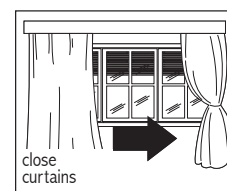

Fig. 12.
- Protect the room from direct exposure to the sun by partially closing curtains and/or blinds to make the unit more economical to run (fig. 12);